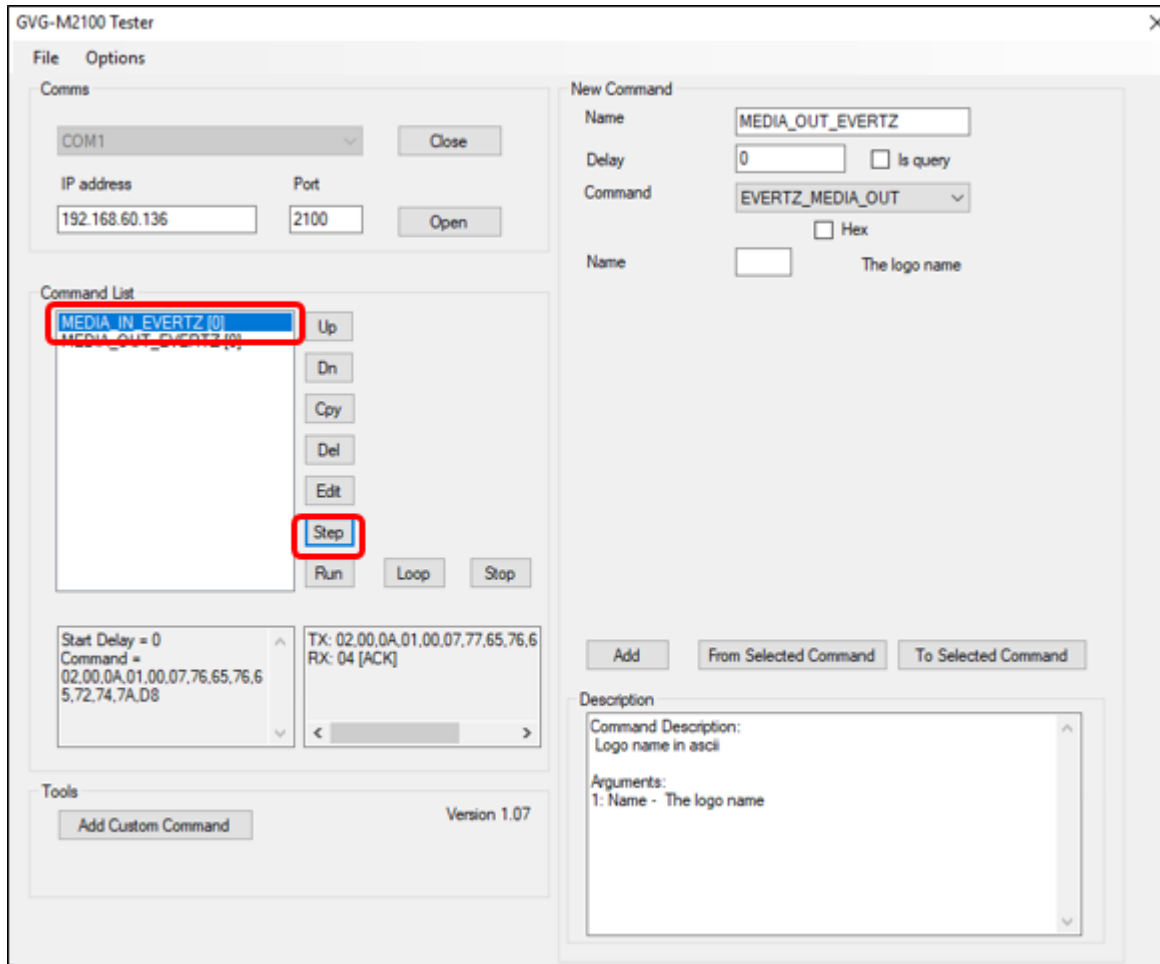

Figure 5-12: M2100 – Activate Command to Remove Logo Through PVW
- 2) Select '**EVERTZ_MEDIA_OUT**' in the 'Command List' and press 'Step' button to deactivate the logo, as Figure 5-12.